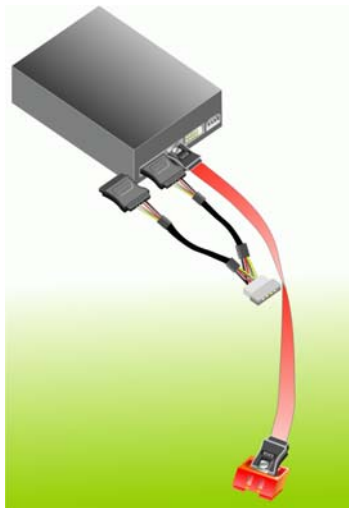

Figure 5-16: SATA Power Drive Connection
Step 3: Connect the cable to the SATA disk. Connect the connector on the other end of the cable to the connector at the back of the SATA drive. See **Figure 5-16**.
Step 4: Connect the SATA power cable. Connect the SATA power connector to the back of the SATA drive. See **Figure 5-16**.